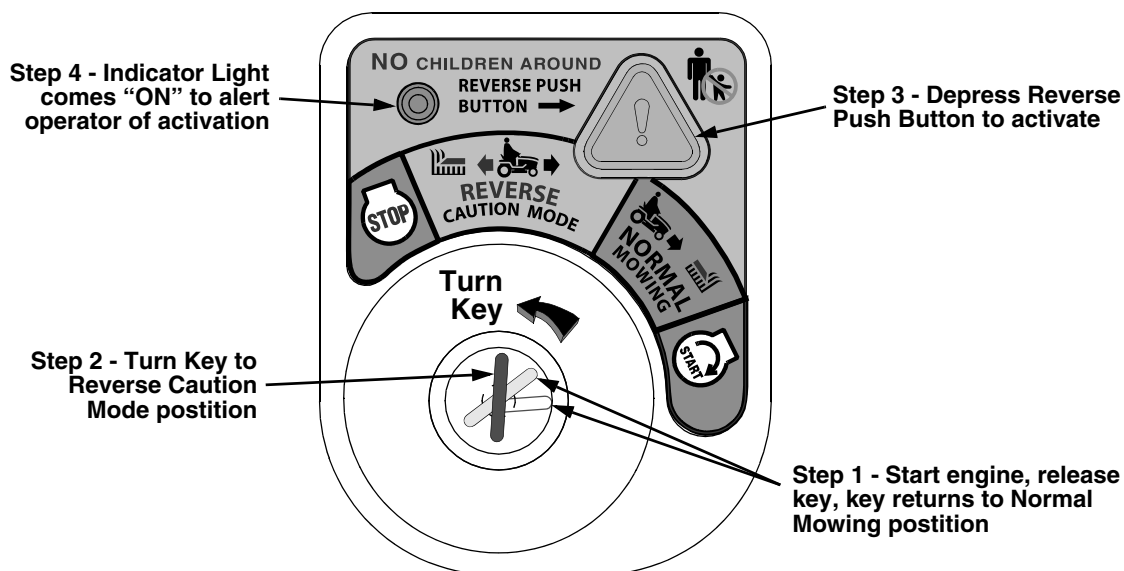

Figure 10
2. Turn the key from the “NORMAL MOWING” (Green) position to the “REVERSE CAUTION MODE” (Yellow) position of the key switch module. Refer to Figure 10.
3. Depress the “REVERSE PUSH BUTTON” (Orange/Triangular Button) at the top/right corner of the key switch module. The red indicator light at the top/left corner of the key switch module will be “ON” while activated. Refer to Figure 10.